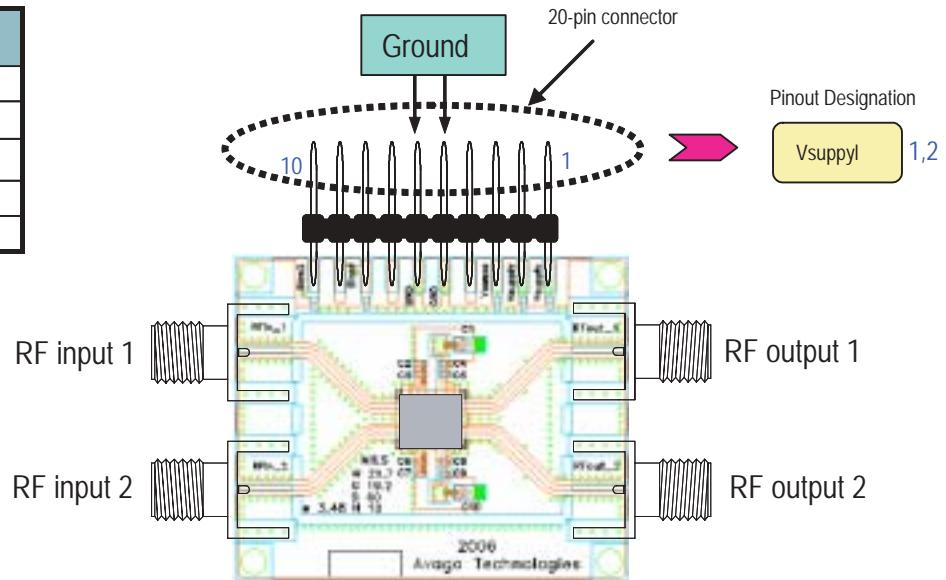

Figure 5. Demo Board Layout Diagram
$T_A = 25^\circ\text{C}$, $V_{dd} = 5\text{V}$ @ 280mA, RF performance at 2.0 GHz, given for each of the 2 RF paths, measured on demo board (see Fig. 5) unless otherwise specified.
7. Measurements at 2GHz obtained using demo board described in Fig 5.